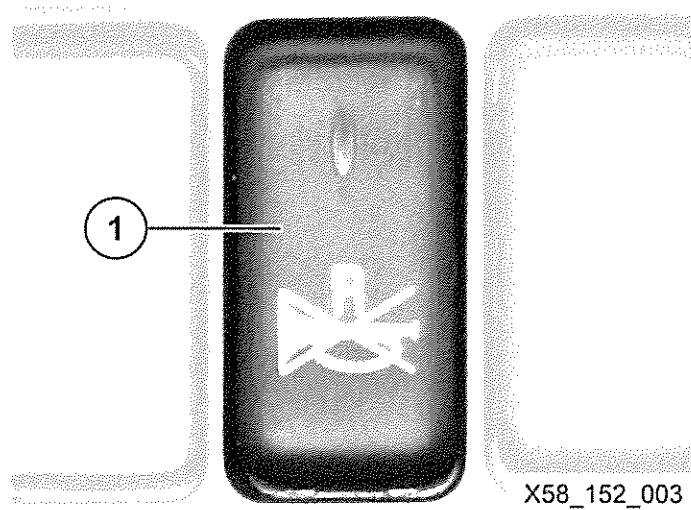

Fig 62 Reversing signal switch
154 Refer to Fig 62. To switch off the reversing signal, press the bottom of the rocker switch (1). The check lamp in the switch comes on.